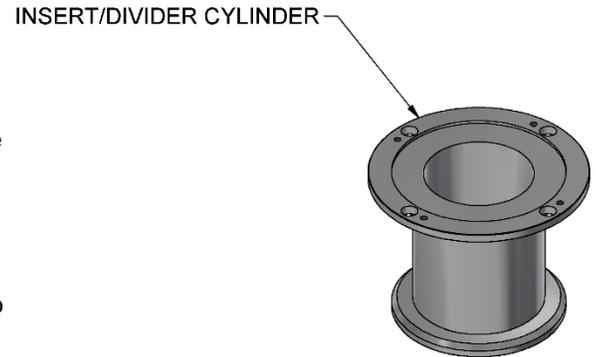

Figure 10: Insert/Divider Cylinder
- Adjust the plunger to be flush with the bottom of the divider cylinder insert (Figure 10) that sits inside the divider slide.